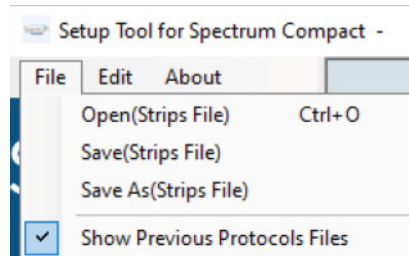

Figure 191. File menu.
6. File allows you to open an existing strips .xml file, or save a strip that has been edited. The “Show Previous Protocols Files” option, when checked, will prompt the user to reselect a protocols .xml file upon each use of the tool. If this option is unchecked, the tool will continue to use the last file selected (Figure 191).